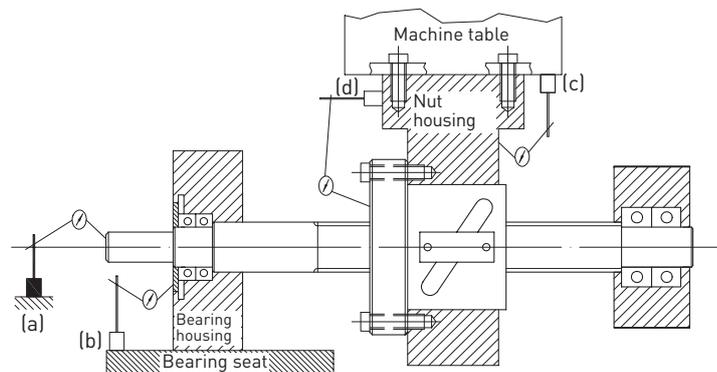

Fig. 7.2 Establishing reason for abnormal play
1. Glue ball gauge in central hole at one end of ballscrew shaft. Use a dial gauge to measure the axial backlash of the ball gauge as you rotate the ballscrew shaft. [Fig. 7.2 (a)]. It should not move any more than 0.003 mm if the bearing, ballscrew nut and nut housing are fitted correctly.
2. Use a dial gauge to measure the relative movement between the bearing housing and bearing seat as you rotate the ballscrew shaft [Fig. 7.2 (b)]. Any measurement other than zero shows that the bearing is either not rigid enough or incorrectly mounted.
3. Check relative movement between machine bed and housing of ballscrew nut [Fig. 7.2 (c)].
4. Check relative movement between housing of ballscrew nut and flange [Fig. 7.2 (d)].
The housing mounted on the ballscrew nut or on a bearing may twist under the weight of the components or machine load if not rigid enough. The test structure shown in Fig. 7.2 (d) can be used to test the rigidity of the nut housing. Similar test structures can be used to test the rigidity of bearing housings.